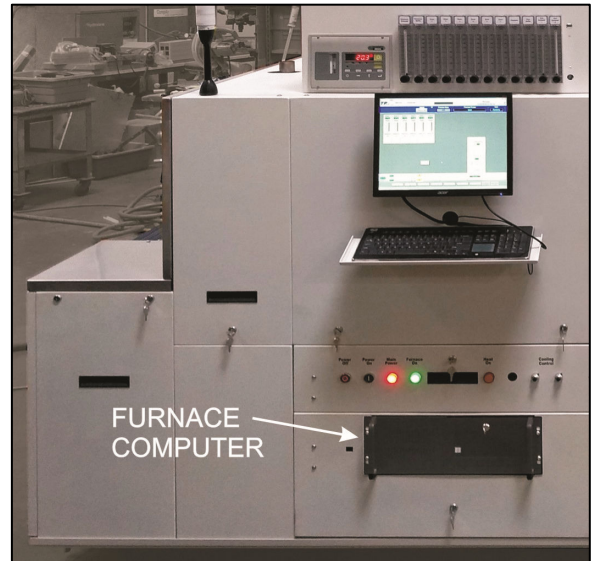
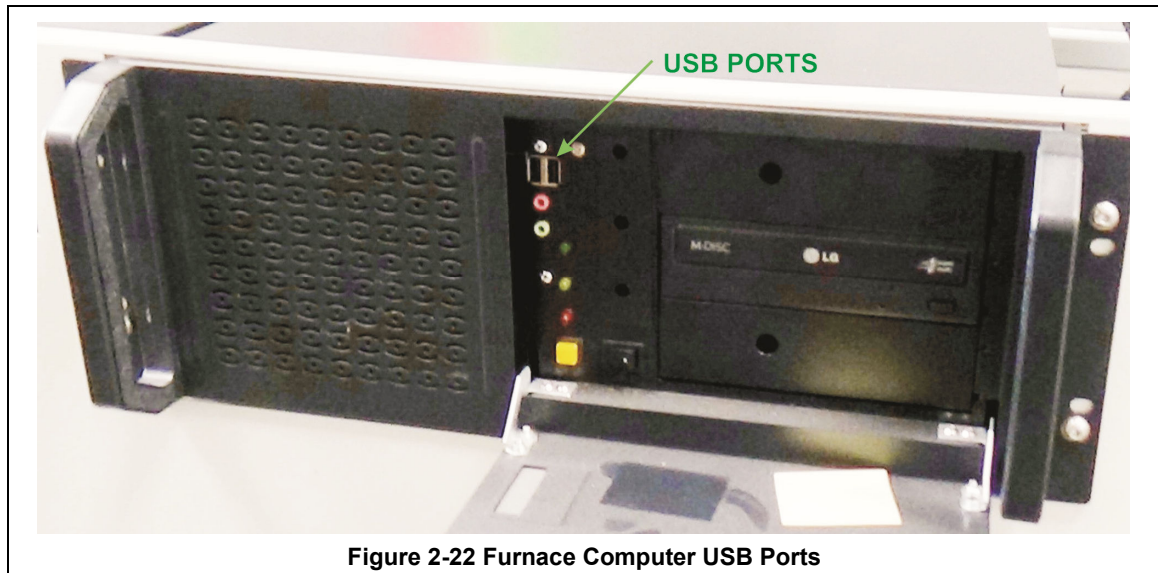

Figure 2-21 Furnace Computer
Figure 2-22 Furnace Computer USB Ports
Owner may connect the furnace to its network or the internet using either the RJ45 port located on the furnace Lower Entrance Panel with a Cat5e or Cat6 cable (see Figure 2-22)
The furnace is equipped with two (2) USB 2.0 ports on the front of the furnace computer (Figure 2-21 and Figure 2-22). These USB ports can be used for connecting a portable drive or to connect a profiler.